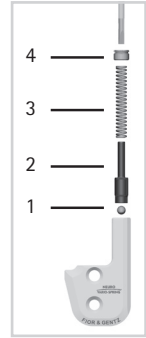

fig. 6
- 1 Assemble the functional unit. Mind the correct order: ball (1), pin (2), pressure spring (3) (fig. 6).
- 2 Screw in the pressure screw (4) tightly. This fixes the functional unit in the spring duct of the cover plate.